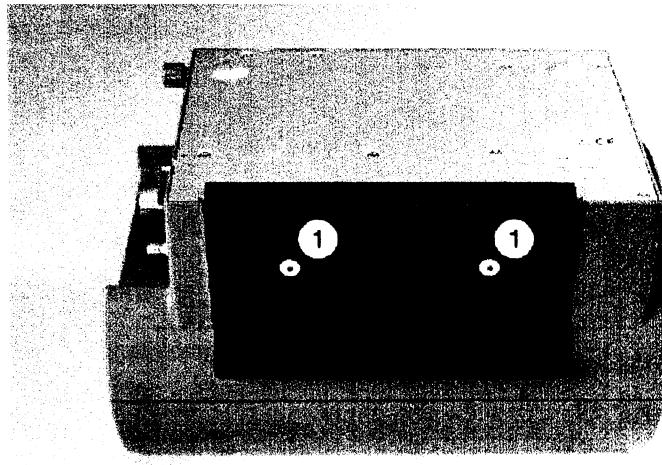

Fig. 1 Base plate fixing screws
4. Remove the base plate fixing screws Fig. 1/1.